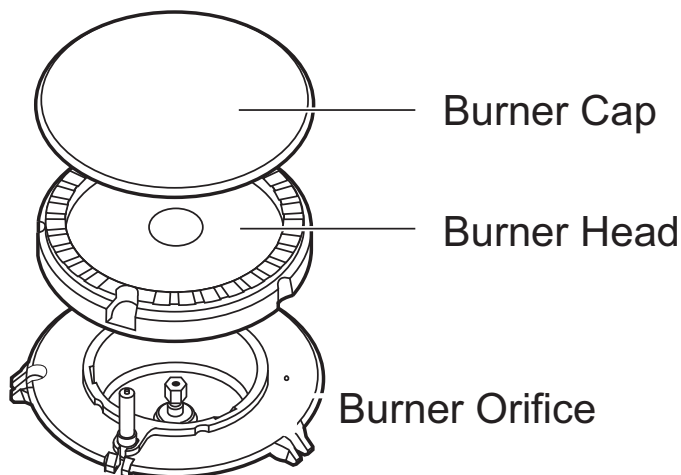

Figure 18: Removable burner components
1. Remove the burner cap and burner head (see Figure 18). Clean the cap and head with hot soapy water and dry thoroughly.